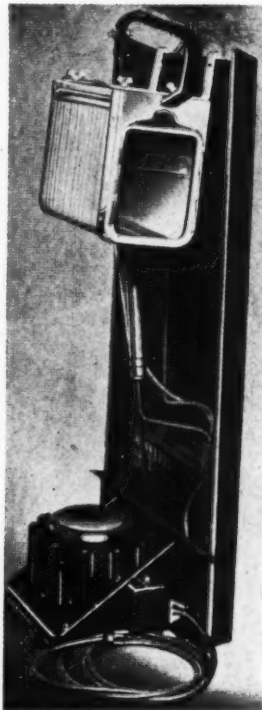

Fig. 4. Showing the location of the accumulator on the 1933 model unit.
**Accumulators.**—Some models contain an accumulator or filter trap which is located on the back of the unit and which prevents any slop-over of refrigerant from the evaporator reaching the condensing unit. (See Fig. 4.) Other models, however, depended on the construction of the evaporator itself to prevent this condition.